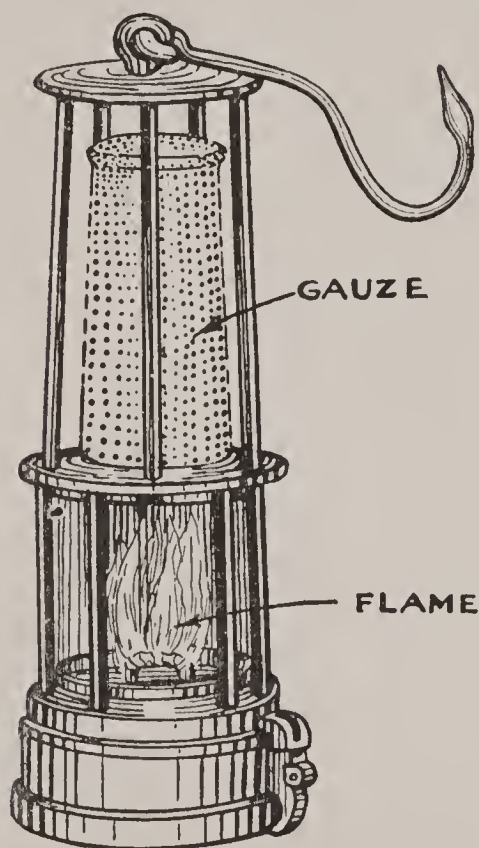

FIG. 135.—The Davy Safety-Lamp in Operation.
How the Davy Safety-Lamp Works. Sir Humphrey Davy invented a safety-lamp, so that when miners who carried it entered a shaft where there was methane (CH_4), or *fire-damp*, as it is generally called, and which when mixed with air is very explosive, it would not ignite. His safety-lamp consists of a common oil lamp, the flame of which is surrounded by a wire gauze cover, as shown in Fig. 135. Now while enough oxygen (O) will reach the flame to keep it burning, the flame cannot get outside of the gauze to ignite the explosive gases.